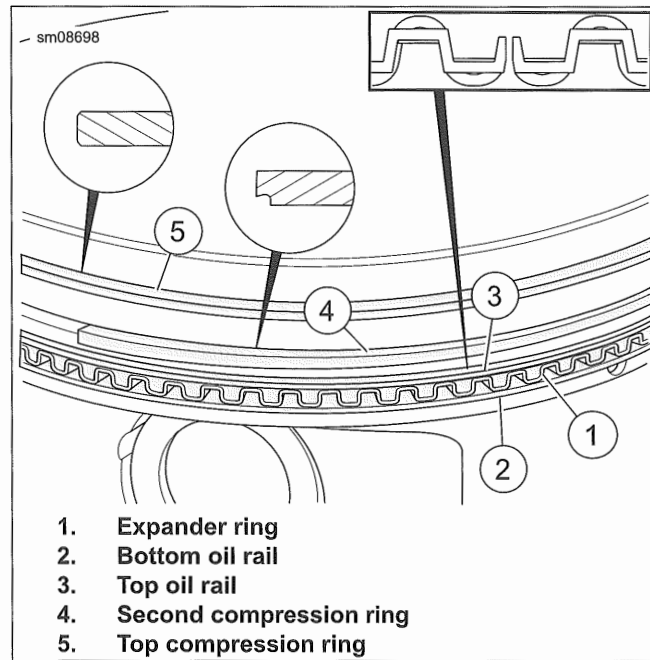

Figure 4-45. Piston Rings
1. See Figure 4-45. Install three-piece oil control ring.
- a. Install expander ring (1) with ends facing up (see inset).
- b. Install bottom oil rail (2).
- c. Install top oil rail (3).